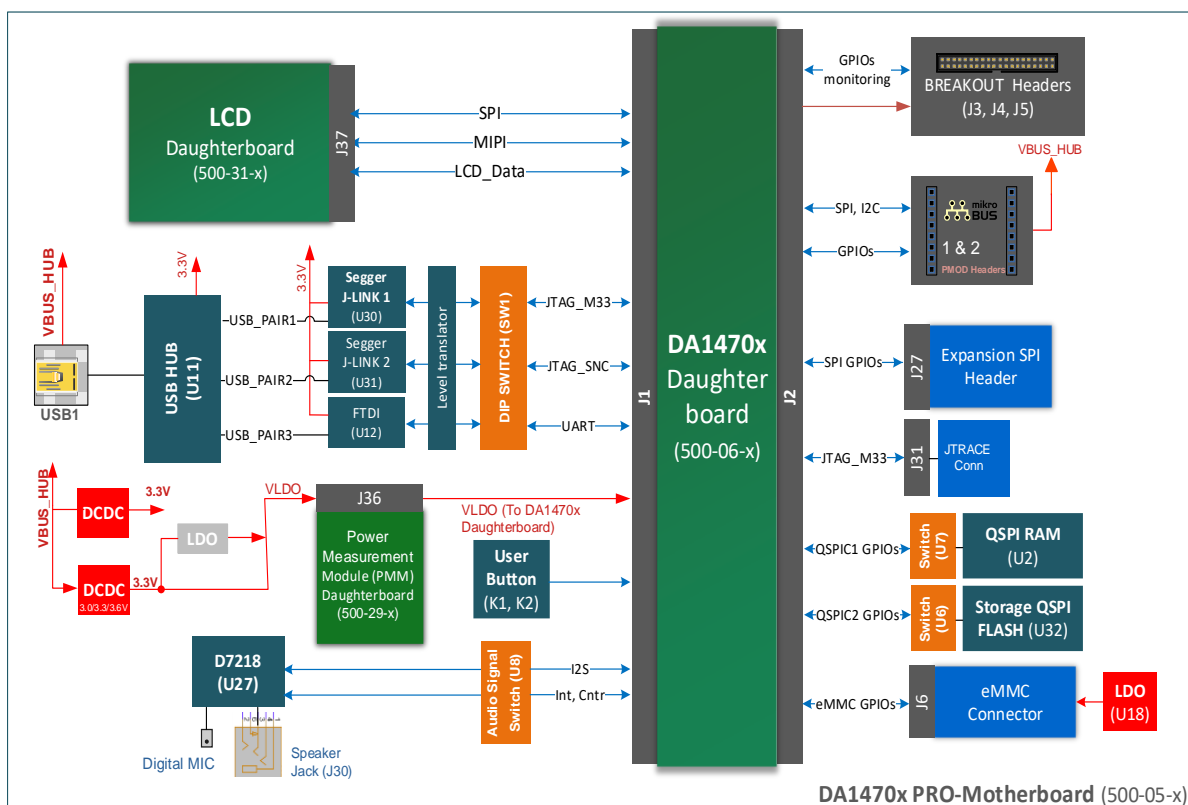

Figure 3: Engineering Level, Voltage and Interface, PRO-Motherboard Block Diagram
- Breakout Headers (3 pcs 2x20pin) for monitoring GPIO and power signals, with markings of signal names on the PCB top silkscreen (Figure 3)
- Dedicated connector (J6) (see Figure 3) which can accept an eMMC flash daughterboard